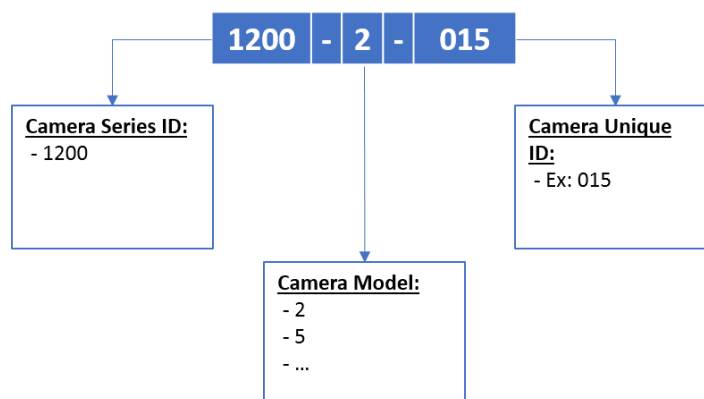

Figure 6: Camera Serial Number Decoder
- S/N.: Camera Serial Number (see Figure 6)